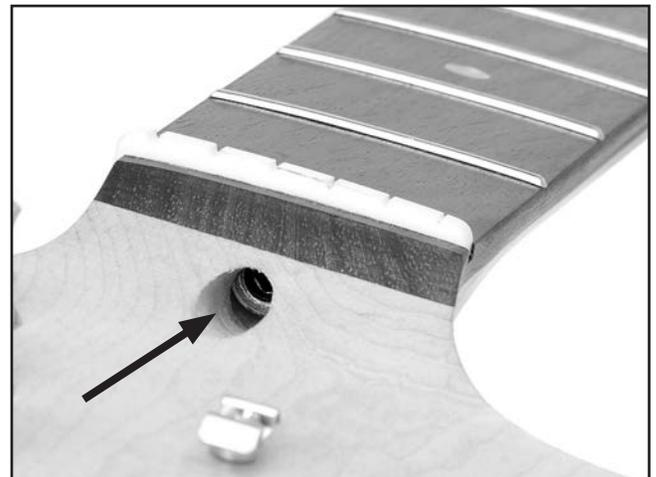

Figure 30. Truss rod nut.
3. Loosen the strings and turn the truss rod nut in the base of the neck (see **Figure 30**) counterclockwise with a 4mm wrench to release tension on the neck. Retighten until the nut begins to grab.